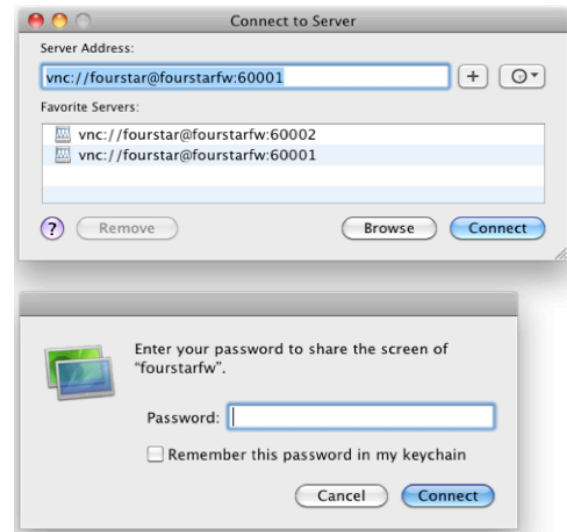

Figure 4.2 Connect to Server dialog box.
- On the mac mini from the Finder application under the Go menu, click Connect to Server (or ⌘K). Enter or select the Server Address: **vnc://fourstar@fourstarfw:60001** as shown in Figure 4.2, and click Connect. (Note: the Nasmyth Mac is port 60002). Enter the password in the pop-up dialog box.